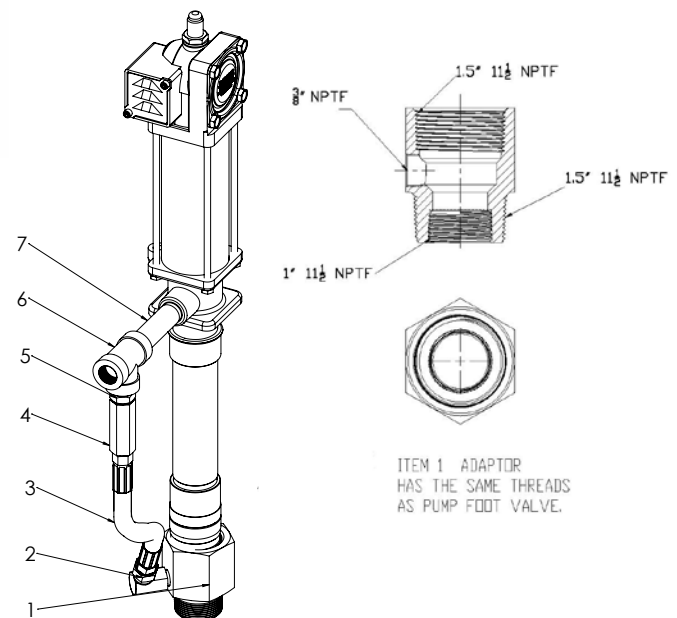

Figure 4 Pressure Relief Kit For Series 40 Pump
The adaptor PN277603 shown as item 1 was designed for Lincoln Series 40 oil pump. The lower end of the adaptor has the same thread arrangement as that of the foot valve body of oil pump. Figure 4 shows a pressure relief kit with a Series 40 oil pump. The part list of Kit 277601-3 is shown in Table 3.